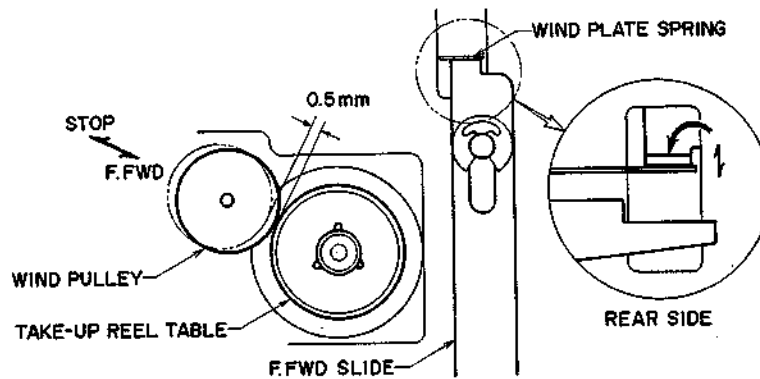

Fig. 13
4. F.F.WD SLIDE ADJUSTMENT (See Fig. 13)